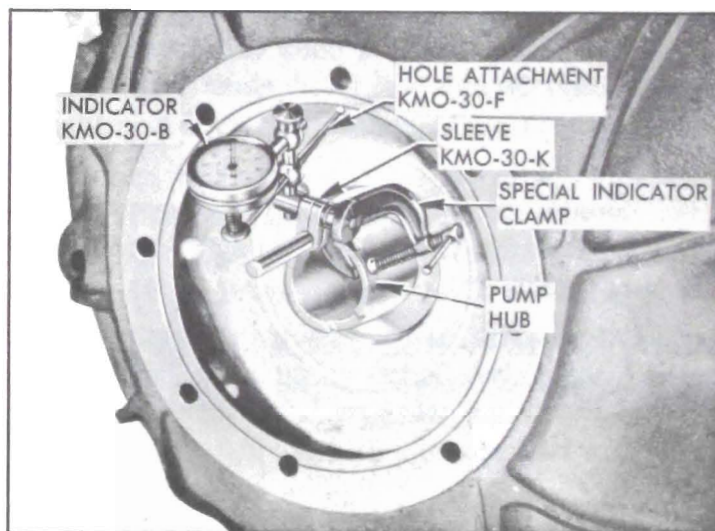

Figure 5-60—Checking Run-Out of Bell Housing Pilot Hole
8. Mount dial indicator and Hole Attachment KMO-30-F to bear against inner edge of pilot hole in housing. See figure 5-60. Run-out of pilot hole should not exceed .004".
10. Set up dial indicator as shown in figure 5-60 and bring pilot hole of housing within